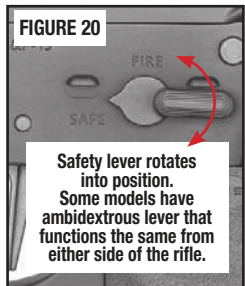
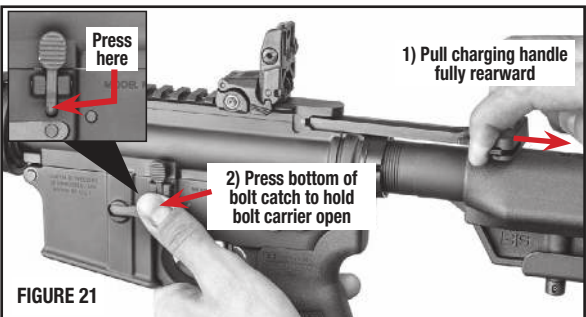

FIGURE 20
FIGURE 21
- Place safety selector lever on “SAFE” (FIGURE 20). If the safety lever won’t rotate to the “SAFE” position - pull the charging handle (uniformly by both sides) all the way back, press and hold the lower portion of the bolt catch down (FIGURE 21) while you release pressure on the charging handle. This will lock the bolt in the open position.